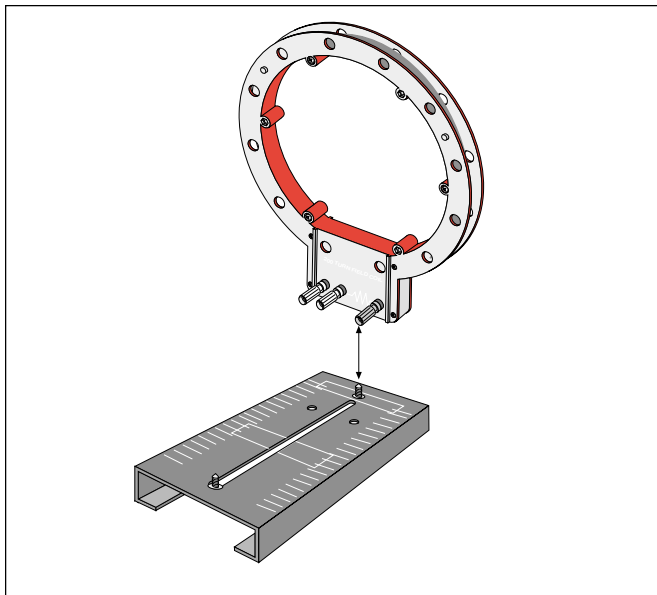

Figure 1: Attaching the fixed-position coil
1. Place the first coil over the rectangular slot on the end of the base (0 cm position). Use the provided cap screw to secure the mount firmly against the top surface of the base. (See Figure 1.)